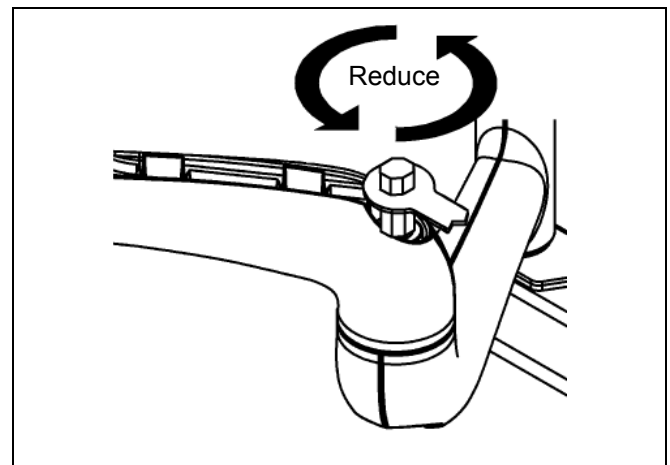
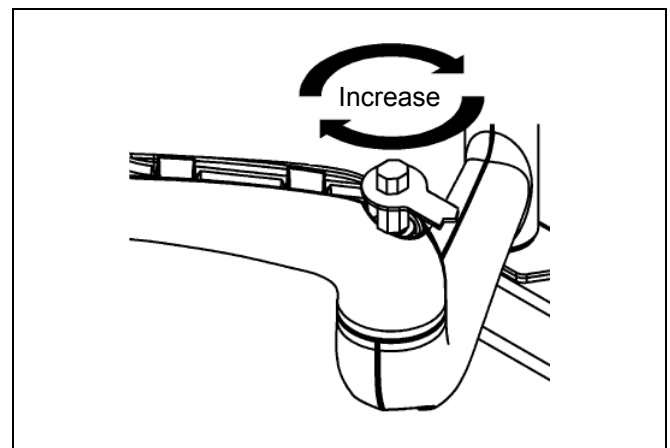

Figure 15: Reduce Swing Arm Tension
Figure 16: Increase Swing Arm Tension
3. Using the wrench provided with the mount, turn adjustment bar clockwise to increase swing arm tension or counterclockwise to reduce swing arm tension. (See figure 15) and (See figure 16)